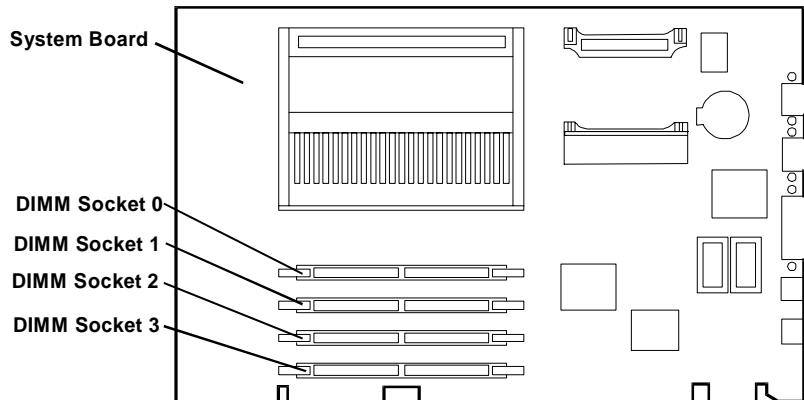

Figure 5-2. DIMM Sockets
4. Install the DIMMs (see Figures 5-2, 5-3, and 5-5):